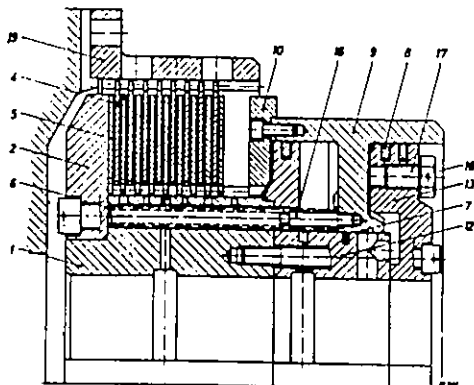

Fig. 4
2.2 On clutches with a double piston (fig. 4) oil is fed into both sides of the piston. Oil fed into the outer cylinder acts on the piston, compressing the plate pack and hence forming a positive connection as in 2.1 above.